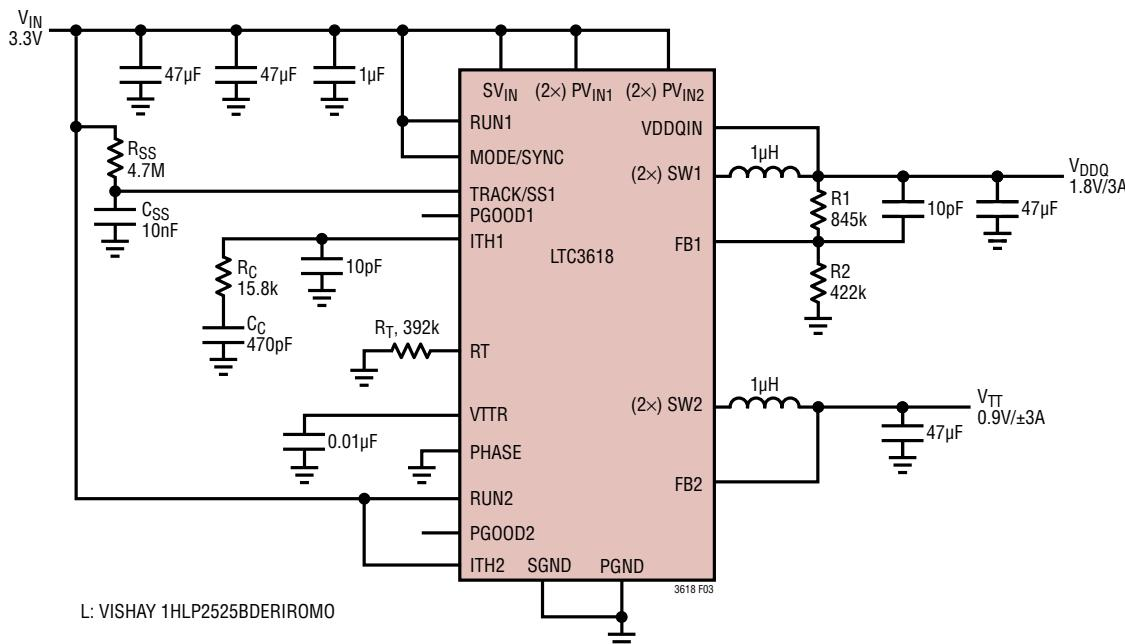

Figure 3. Soft-Start and Compensation for V_{DDQ} Externally Programmed, Compensation for V_{TT} Internally Programmed
$T_A = 25^\circ\text{C}$, $V_{IN} = 3.3\text{V}$, $f = 1\text{MHz}$, Figure 3 Circuit,
The resistive divider allows pin V_{FB1} to sense a fraction of the output voltage as shown in Figure 3.
The ITH1 external components (15.8k and 470pF) shown in Figure 3 will provide an adequate compensation as well as a starting point for most applications. The values can be modified slightly to optimize transient response once the final PCB layout is complete and the particular output capacitor type and value have been determined. The output capacitors need to be selected because the various types and values determine the loop gain and phase. The gain of the loop will be increased by increasing R_C and the bandwidth of the loop will be increased by decreasing C_C . If R_C is increased by the same factor that C_C is decreased, the zero frequency will be kept the same, thereby keeping the phase shift the same in the most critical frequency range of the feedback loop. The output voltage settling behavior is related to the stability of the closed-loop system. The external compensation, forced continuous operation circuit in the Typical Applications section uses faster compensation to improve load step response.
After enabling the LTC3618 by bringing the RUNx pins above the threshold, the enabled channels enter a soft-start-up state. The type of soft-start behavior of V_{DDQ} is set by the TRACK/SS1 pin. The soft-start cycle begins with an initial discharge pulse pulling down the TRACK/SS1 pin to SGND and discharging the external capacitor C_{SS} (see Figure 3).
2. If a longer soft-start period is desired, it can be set externally with a resistor and capacitor on the TRACK/SS1 pin as shown in Figure 3. The voltage applied at the TRACK/SS1 pin sets the value of the internal reference at V_{FB1} until TRACK/SS1 is pulled above 0.6V. The external soft-start duration can be calculated by using the following equation: